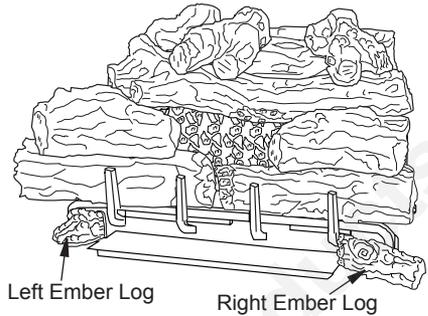

Figure 37 - Installing Ember Logs
- Place the left and right ember logs as shown in Figure 37. Do not place the logs on the ember bed pan they are intended to cover the sheet metal on the front of the base assembly.